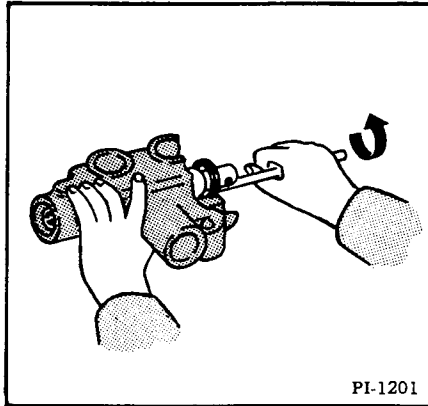

Fig. 18 Installing New Front Seal
(9) Install a new front seal, being sure to keep the "U" cup side of the seal toward the valve body (Fig. 18). Insert and check this seal as you did the other.